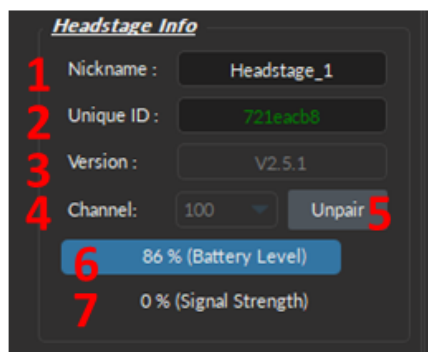

Figure 8.53: Acquisition View, Controls
The **Headstage Info** box (Fig. 8.53) displays the *EP Console*-specific elements which are important to pair, control and monitor the wireless headstage. The following elements are included
1. The **Nickname** text-box (Fig. 8.53, 1) allows the user to change the name used for the connected headstage.
2. The **Unique ID** box (Fig. 8.53, 2) displays the unique ID sequence associated with the headstage currently in use.
3. The **Version** box (Fig. 8.53, 3) displays the headstage firmware version.
4. The **Channel** drop-down list (Fig. 8.53, 4) shows the channel currently in use by the headstage. When using two headstages, the channel must be different for each headstage.
5. The **Pair** button (Fig. 8.53, 5) is used to pair an active headstage to a console. When a headstage is paired, it becomes the **Unpair** button, which unpairs the active headstage associated with the given antenna.
6. The **Battery Level** bar (Fig. 8.53, 6) displays the headstage battery level, in %, at all times.
7. The **Signal strength** bar (Fig. 8.53, 7) displays the percentage of data packets lost during the WiFi transmission. If the signal strength is acceptable (100-76%) the bar appears **blue**. If the signal strength is low (75-50%), it will appear **yellow**. If the signal strength is critically low (<50%), it will appear **red**. Note that the signal will weaken if the animal/headstage is too far from the antenna or if there are obstructions between them.